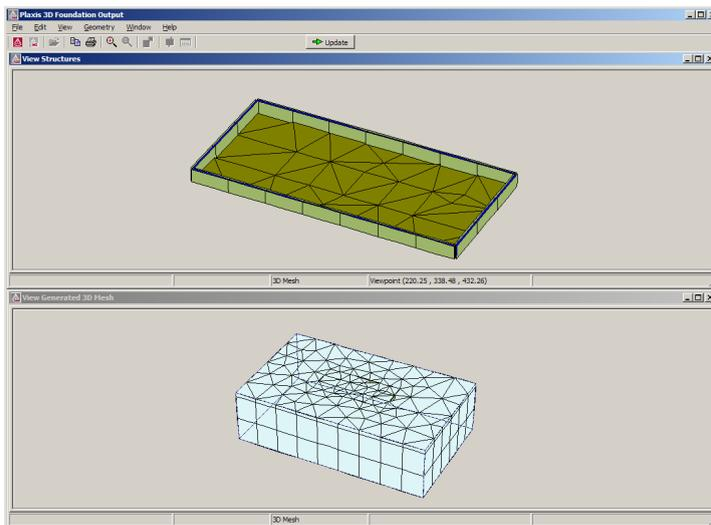

Figure 3.16 Generated 3D mesh in the Output window
Click the *Generate 3D mesh* button on the toolbar or select *Generate 3D mesh* from the *Mesh* menu. The 3D mesh generation procedure is started and the 3D mesh is displayed in the *Output* window. An additional element level is automatically introduced between the work planes at  $-2$  m and  $-28$  m to reduce the element size in *y*-direction. The 3D mesh and the various structural elements are shown in two different windows. The arrow keys of the keyboard allow the user to rotate the model so that it can be viewed from any direction (see Figure 3.16).
**Hint:** If the distance between two adjacent work planes is significantly larger than the average (2D) element size, the 3D mesh generation procedure will automatically generate *intermediate element levels* (see Figure 3.16) to avoid badly shaped elements.